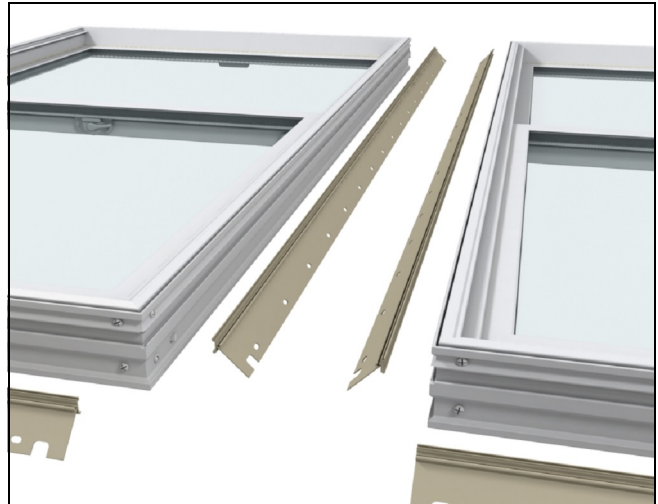

Figure 2
4. Lay the units to be mullled on a flat sturdy surface exterior side up. Remove all nailing fin, if present, from windows at the mull and perpendicular to the mull. See Figure 2.